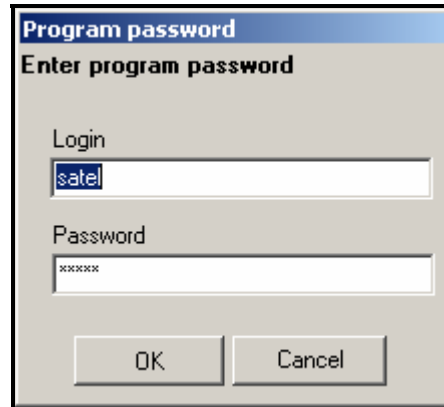

Fig. 16. Password entry window on the first start of the program.
2. Start the ACCO-SOFT-LT program. Access to the program is protected by a password. When running the program for the first time, you will get access on the basis of default password, which is already entered. The default password can be read then (see Fig. 16). **It is recommended that the password of access to the program be changed after the first start.** In order to do so, open the main menu of the program, enter the FILE menu and select PROGRAM ACCESS, and then CHANGE PASSWORD. To change login or add other users who will be authorized to use the program, enter the FILE menu and select PROGRAM ACCESS, and then PROGRAM USERS.